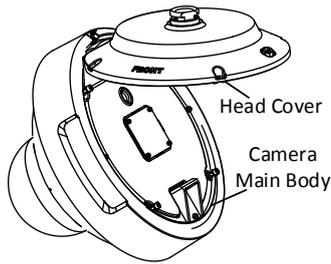

Figure 1-19 Head Cover of PanoVu Camera
4. Separate the head cover from the camera main body, as shown in Figure 1-19.